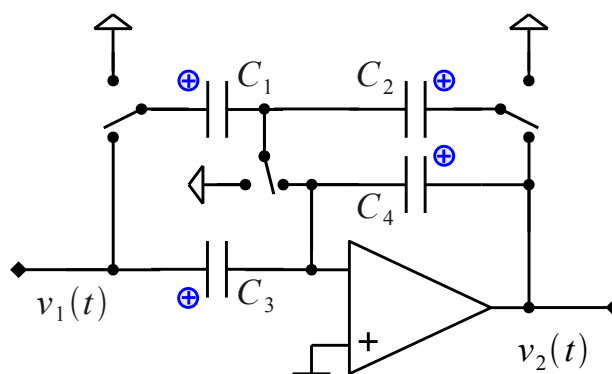

Figure 9.1: SC circuit.
- Derive the transfer function for the SC circuit in Figure 9.1.